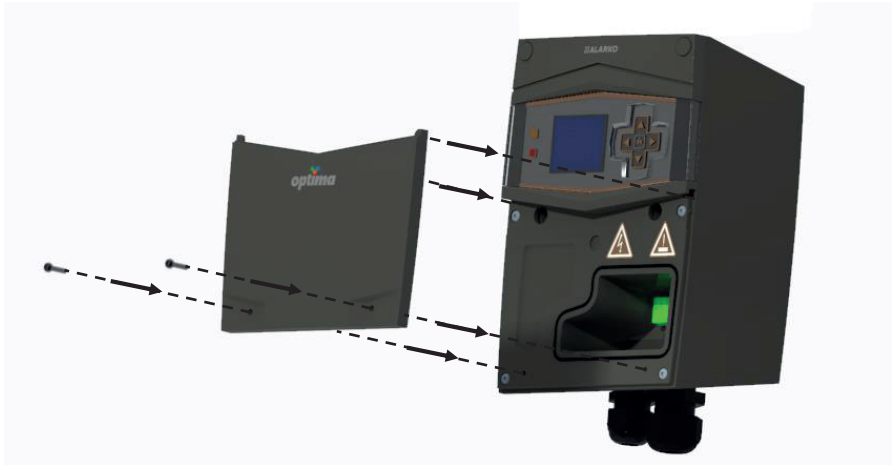

Figure 6.11: Refitting the Bottom Cover
8. Refit the cover. See Figure 6.11.